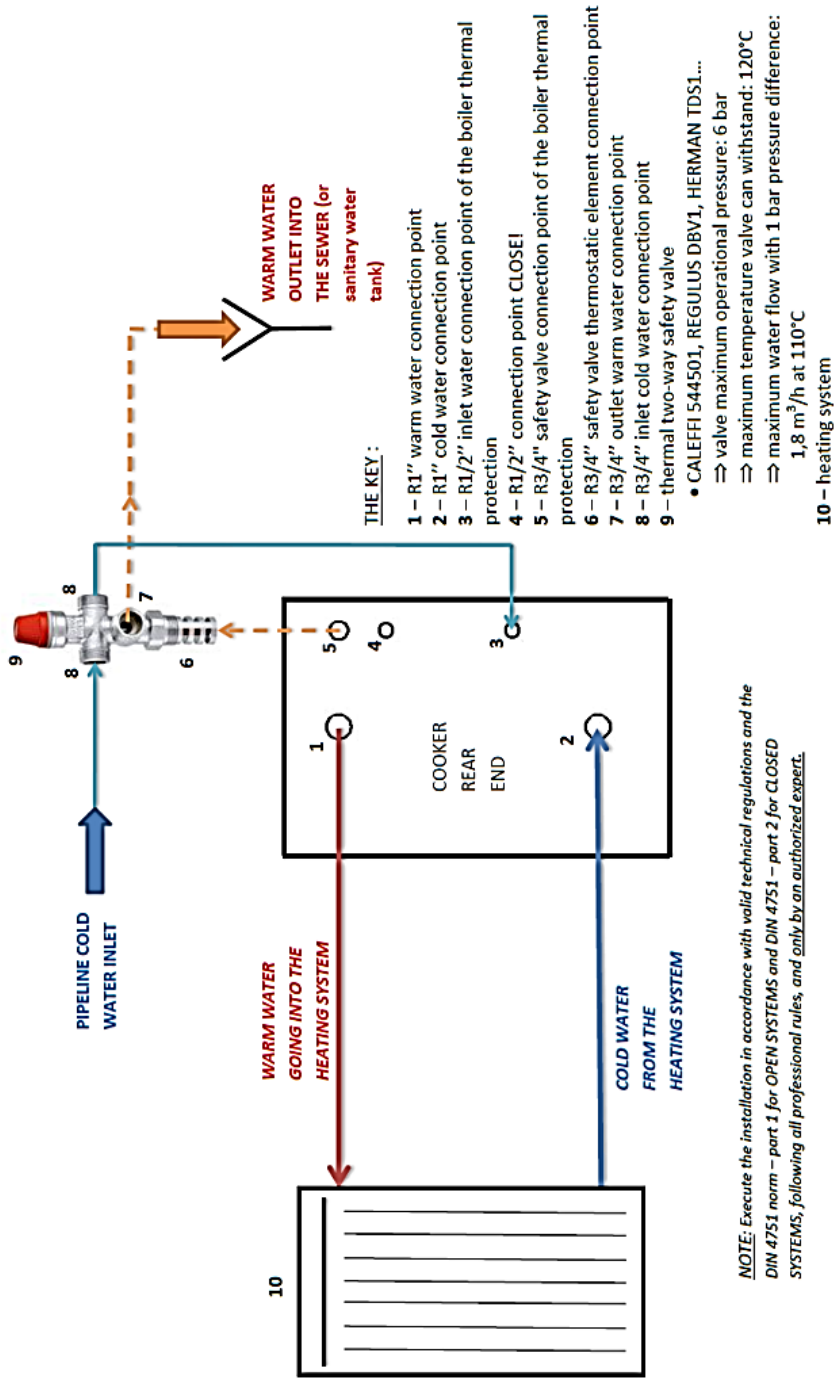

figure 12
- **R3/4" (7)** - figure 12, OR